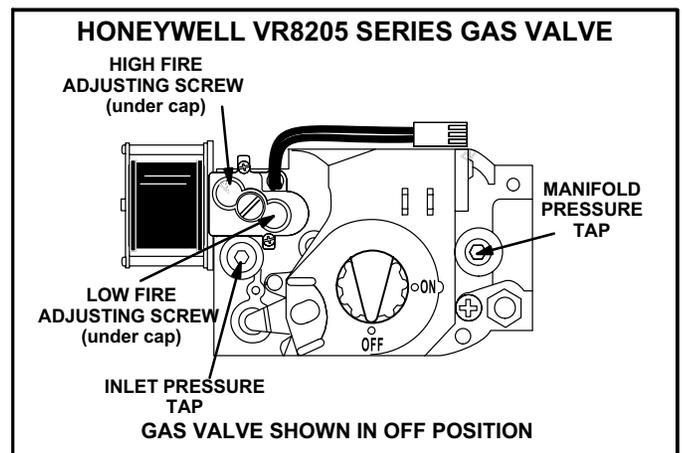

FIGURE 27
*Honeywell VR8205 Gas Valve* - Turn knob on gas valve clockwise  to **OFF**. Do not force. See figure 27.
*Honeywell VR8205 Gas Valve* - Turn knob on gas valve counterclockwise  to **ON**. Do not force. See figure 27.